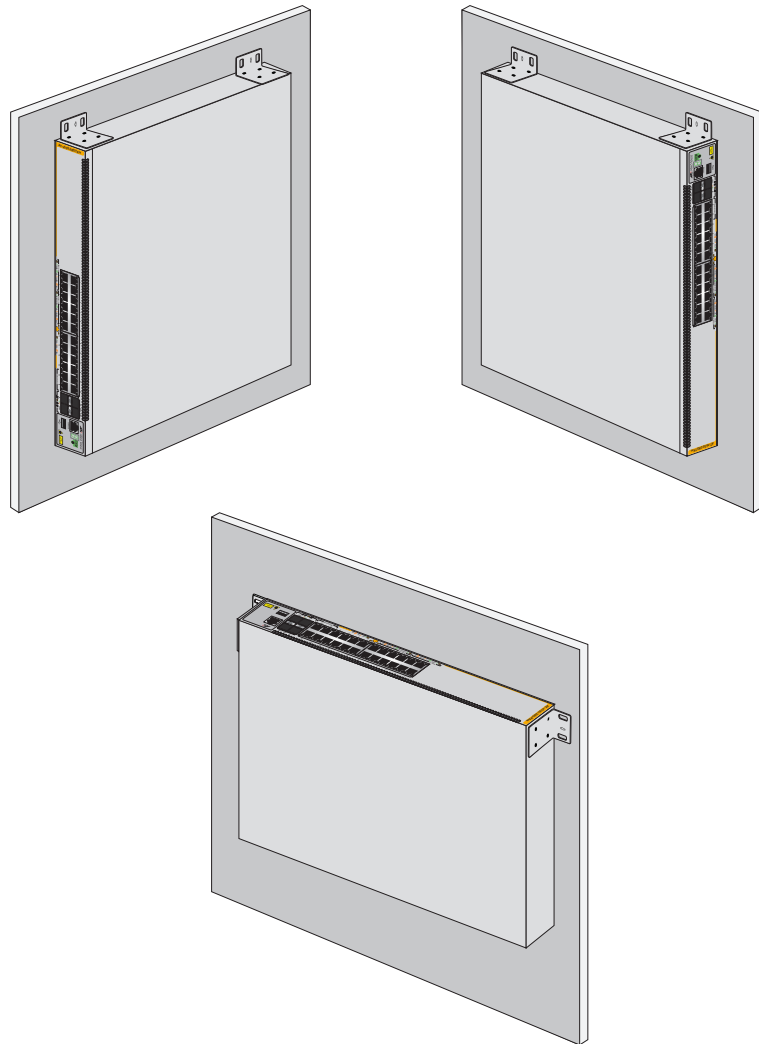

Figure 35. Positioning the AT-x530-28GTXm or AT-x530-52GTXm Switch on the Wall
Install the switch on a wall with the front panel facing up, left or right, as shown in Figure 35. Do not install the switch with the front panel facing down.
- ☐ Position it so that the front panel is facing up, left or right. Refer to Figure 35. Do not install it with the front panel facing down.